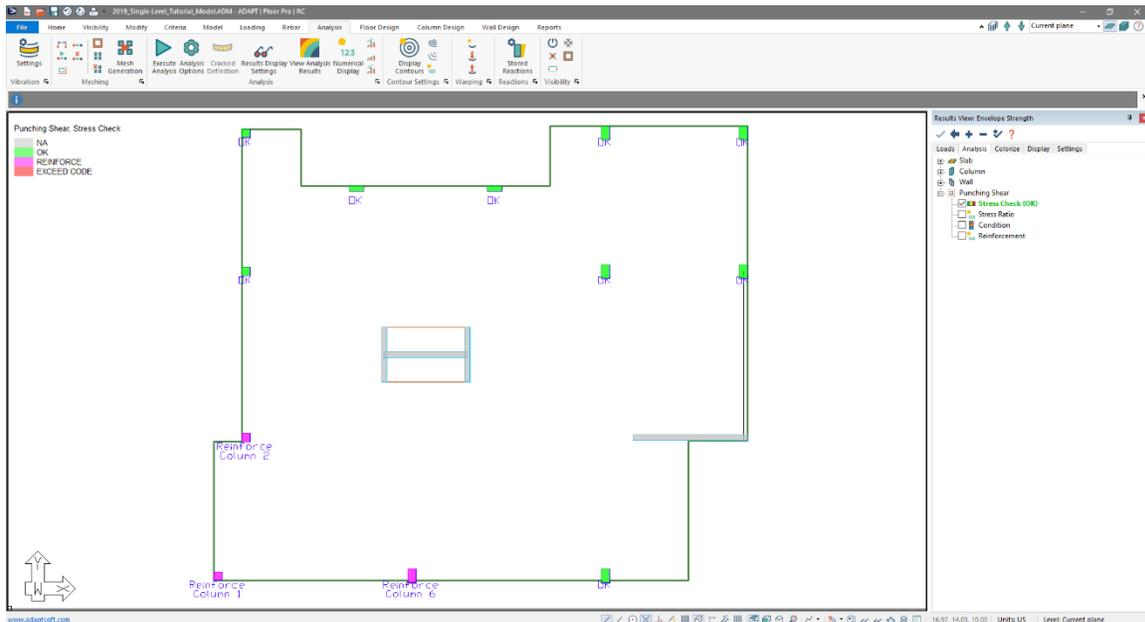

Figure 7-9
- Expand the *Punching Shear* tree and click the check box next to *Stress Check*. The user should now see a screen similar to **FIGURE 7-9**. Notice how the two lower columns are now being checked for shear.